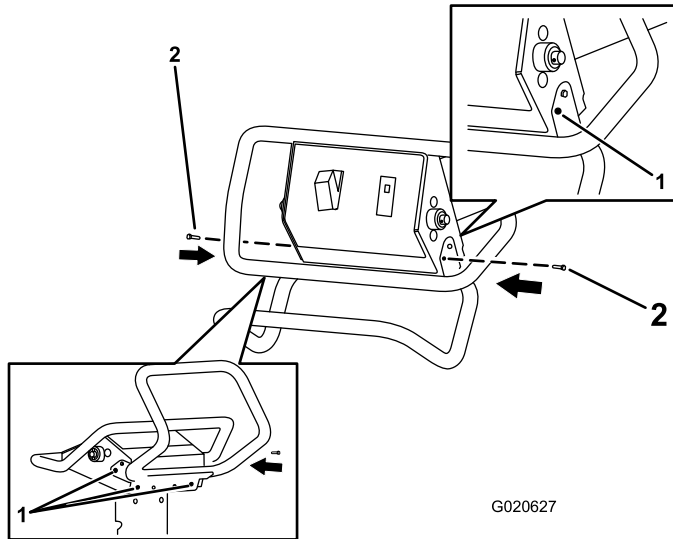
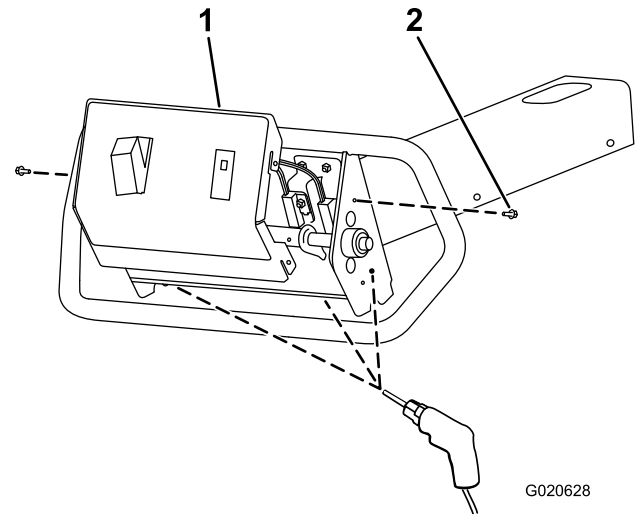

Figure 2
Figure 3
5. Secure the handle to the frame using the 2 hex-head bolts (#10-24 x 3/4 inch) as shown in Figure 2.
1. Remove the 2 hex-head bolts (#10-24 x 1/2 inch) from the frame (Figure 3).
2. Separate the control cover from the frame (Figure 3).
3. Remove the wire harnesses from the switch and the light in the control cover (Figure 3).
4. Drill 4 holes (10 mm or 13/32 inch) in the frame at the locations marked in step 6 of procedure1 Marking the Frame (page 1); also refer to Figure 2 and Figure 3.